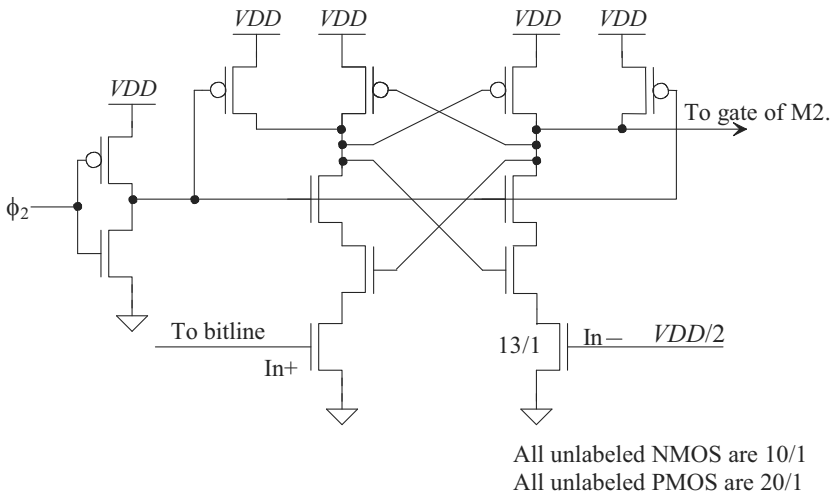

Figure 17.42 Simplifying the comparator in Figs. 17.16 and 17.18.
- 17.7 Demonstrate, using SPICE and discussions, that the circuit in Fig. 17.42 may be used in place of the comparator and M3 in Fig. 17.18. How do output glitches affect the sensing circuit's operation?